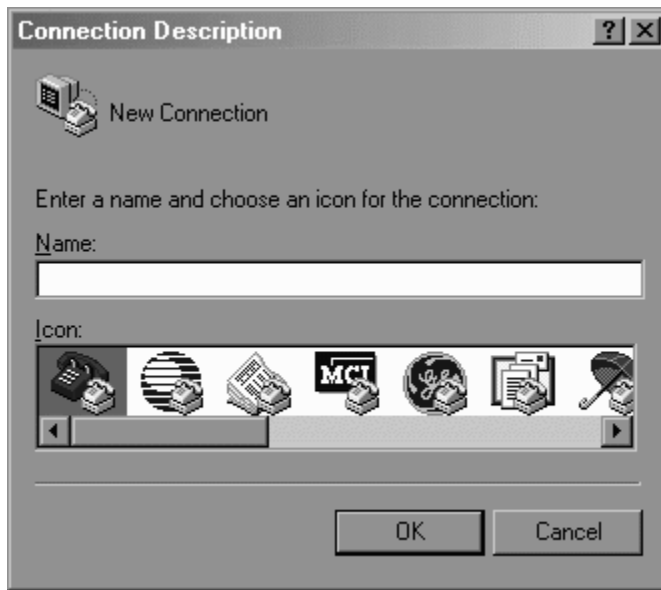

Figure 6. HyperTerminal New Connection Window
23. Press **Start-> Programs-> Accessories-> Communications-> HyperTerminal** to open HyperTerminal. For older computers you may find the HyperTerminal folder in the Accessories folder. The Connection Description screen will be displayed. (See Figure 6)